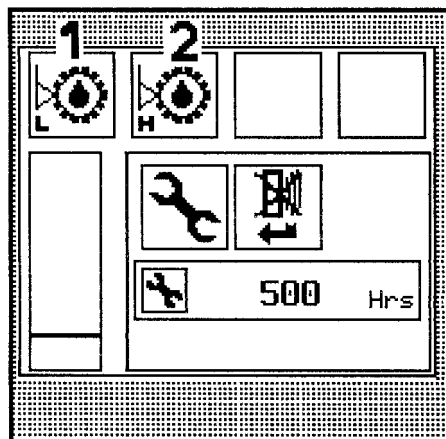

Fig. 13
The splitterbox oil is supervised by a level gauge triggering the indication on the display when the level is below the minimum (Fig. 13, pos.1) or above the maximum allowable level (Fig. 13, pos.2).